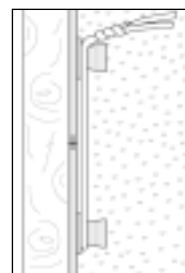

Fig. 2
4. Loosely connect the tiles to each other by means of wire loops so that thermal related expansions will be equalized during installation (fig. 2).